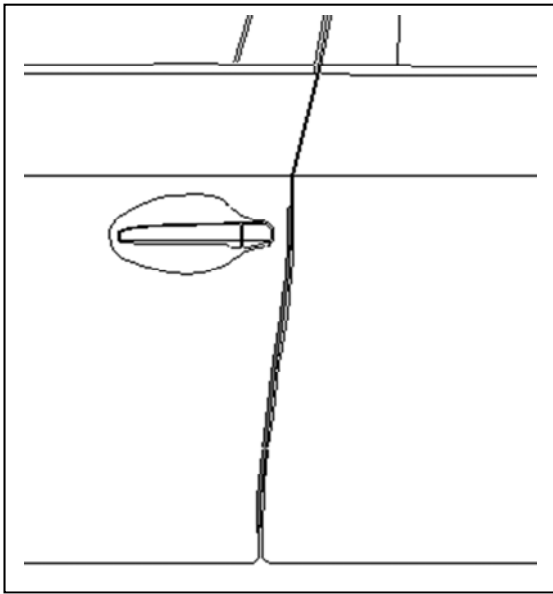

Fig. 1-9
- (h) Carefully close the door and visually ensure the DEG has sufficient clearance from the adjoining body panels. Carefully remove the template from the door and retain for use on the passenger side (Fig. 1-9).